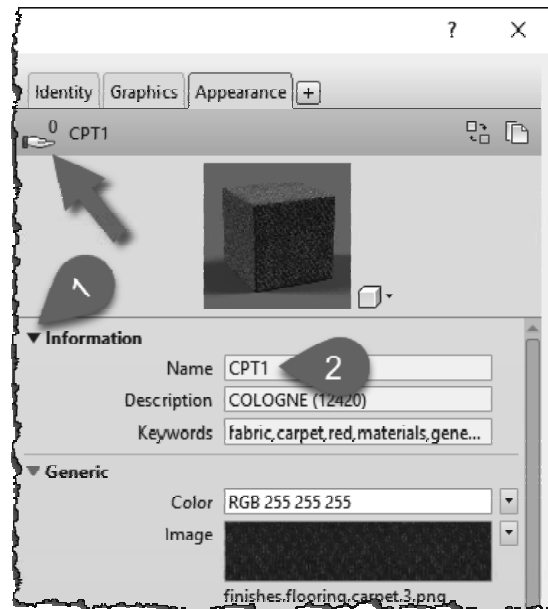

FIGURE 4-3.9 Editing an appearance asset
19. Expand the **Information** area and change the *Name* to **CPT1** (see Figure. 4-3.9).